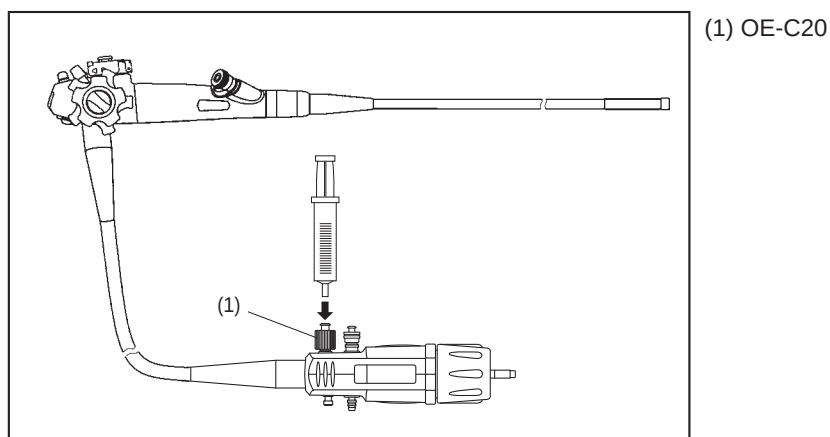

Figure 1.3.24
- 8) Attach a syringe filled with air to OE-C20, and flush the water jet channel with 35 mL of air to purge residual detergent solution. (see Figure 1.3.24, p57)
- 10) Attach a syringe filled with water to OE-C20, and flush the water jet channel with 35 mL of water. (see Figure 1.3.24, p57)
- 15) Attach a syringe filled with air to OE-C20, and flush the water jet channel with 35 mL of air. (see Figure 1.3.24, p57)